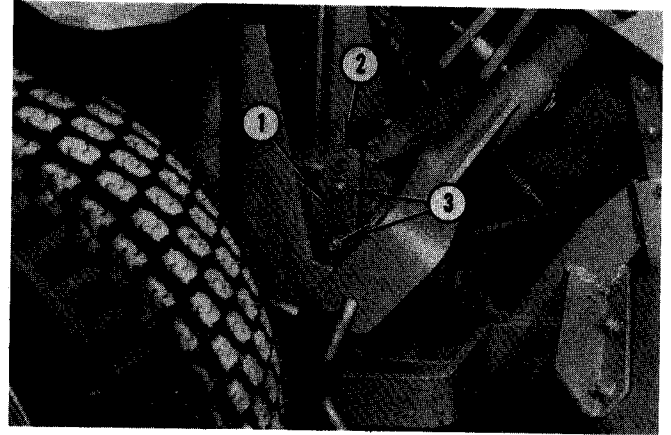

Fig. 12 - LIFT LINK ADJUSTMENT
3. Loosen 2 bolts on Tiller lift link, Fig. 12, and then move tractor lift lever fully to rearward position.
4. Holding lift link up, tap down ears on upper end of lift link and tighten the two retaining bolts, Fig. 12.